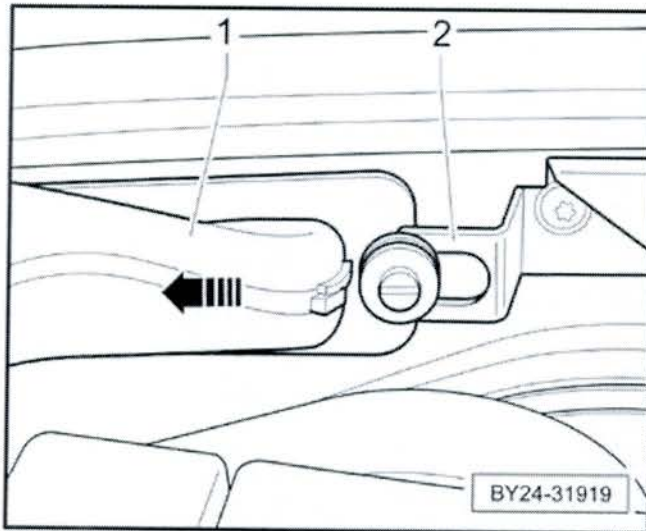

Figure 7
- Slide the duct inwards –1- to disengage from the forked bracket –2- (see Figure 7)